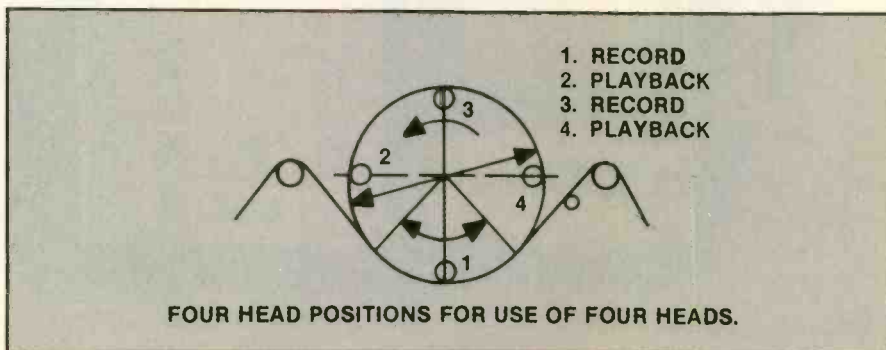

Figure 3. Use of four heads instead of only two will allow simultaneous tape recording and playback, providing a record-monitoring function.
3. If four heads are used instead of two (Figure 3), the heads can be separated by 90° so that you will be able to play back at the same time as you're recording, thus providing a record monitor function.